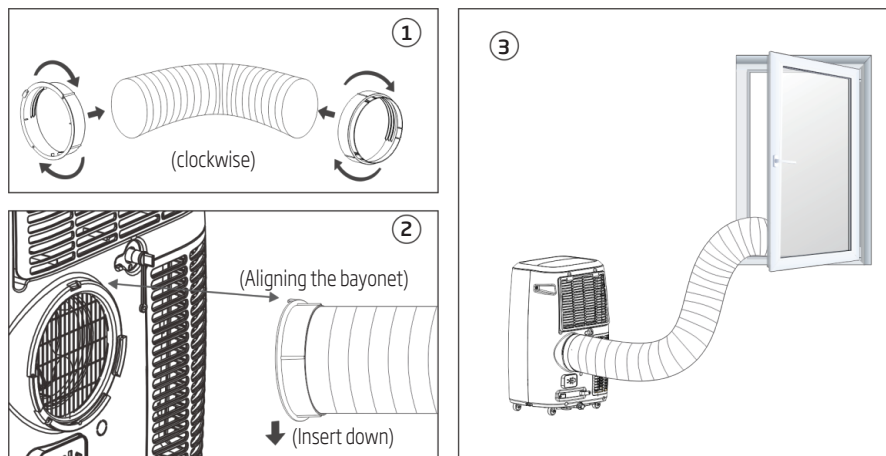

Fig. 9
2. Insert the square fixing clip into openings at back of the air conditioner (see Fig. 9).